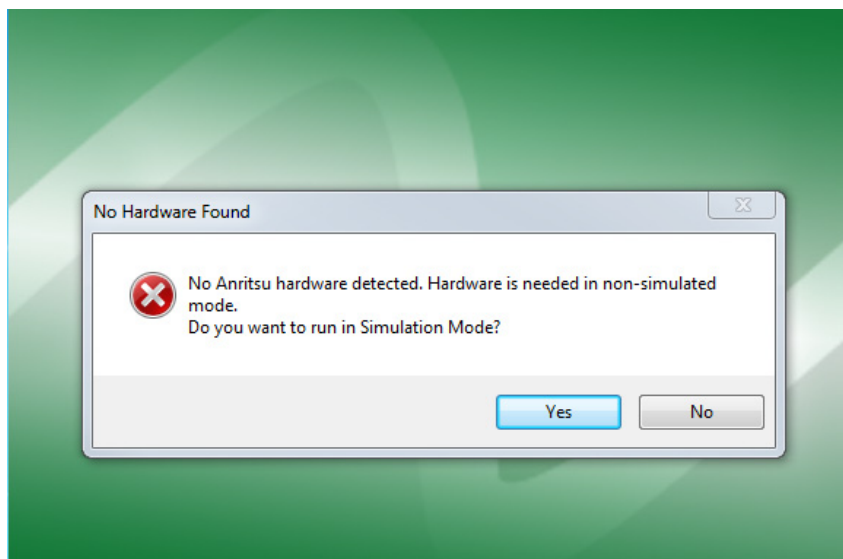

Figure 3-6. ShockLine GUI Initialization Screen
2. From the No Hardware Found dialog box, Figure 3-6, select yes to run in Simulation Mode.